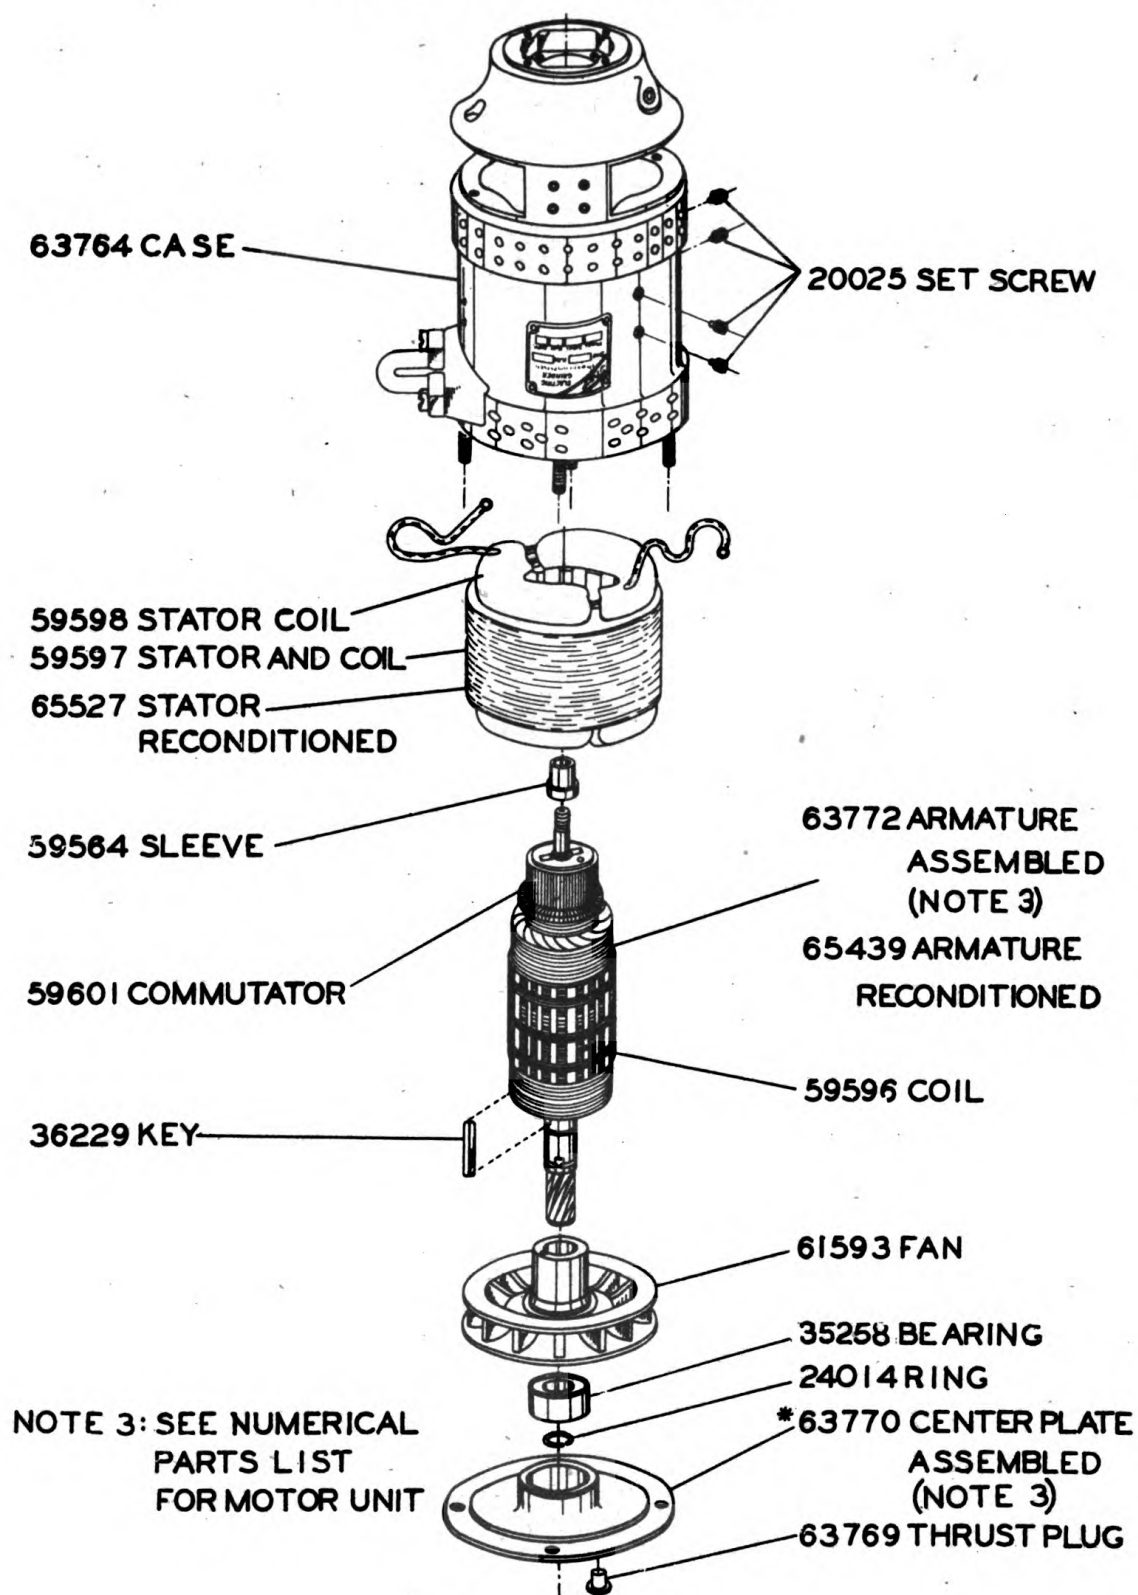

Figure 15
(See Figure 15, Page 24)
2. Pry No. 63770 Center Plate Assembly off No. 63764 Field Case evenly around its entire edge. (Figure 15)
No. 63772 Armature (Figure 15)
#### No. 59601 Commutator (Figure 15)
#### No. 35258 Lower Armature Bearing (Figure 15)
#### No. 61593 Fan (Figure 15)
#### No. 59597 Stator (Figure 15)